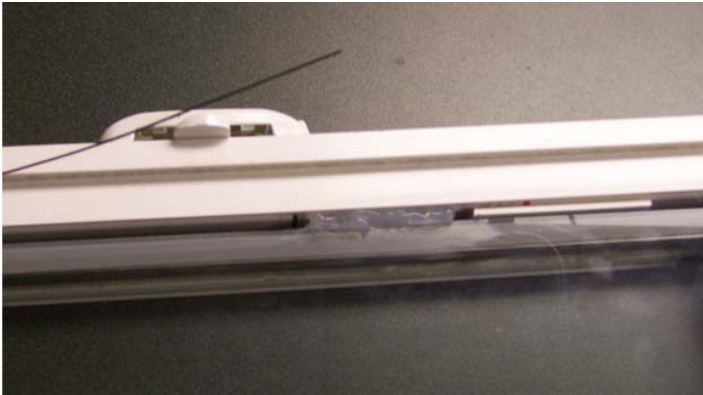
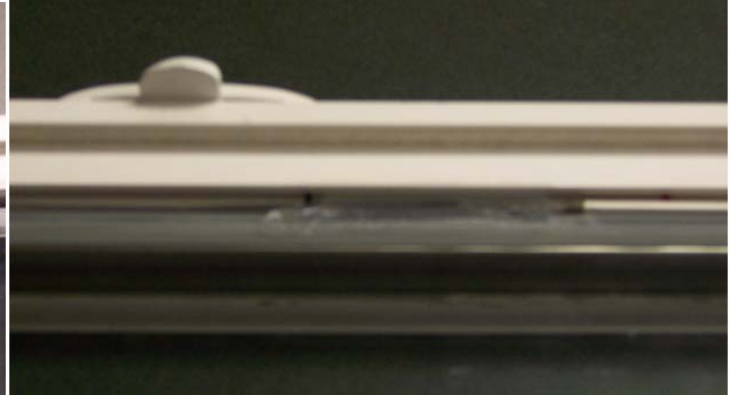

Fig 3
Fig 4
- After the Tube is sufficiently crimped, place a bead of Butyl, or silicone caulk in the gap between the I.G. and the glazing channel of the sash. Make this bead 1" to 1.5" long, and place the bead in such a way that the end of the capillary tube will end up in the center of the caulk bead's length (Fig3). Tuck the capillary tube into this same space alongside the IG, and embed the crimped end into the bead of caulk (Fig4).